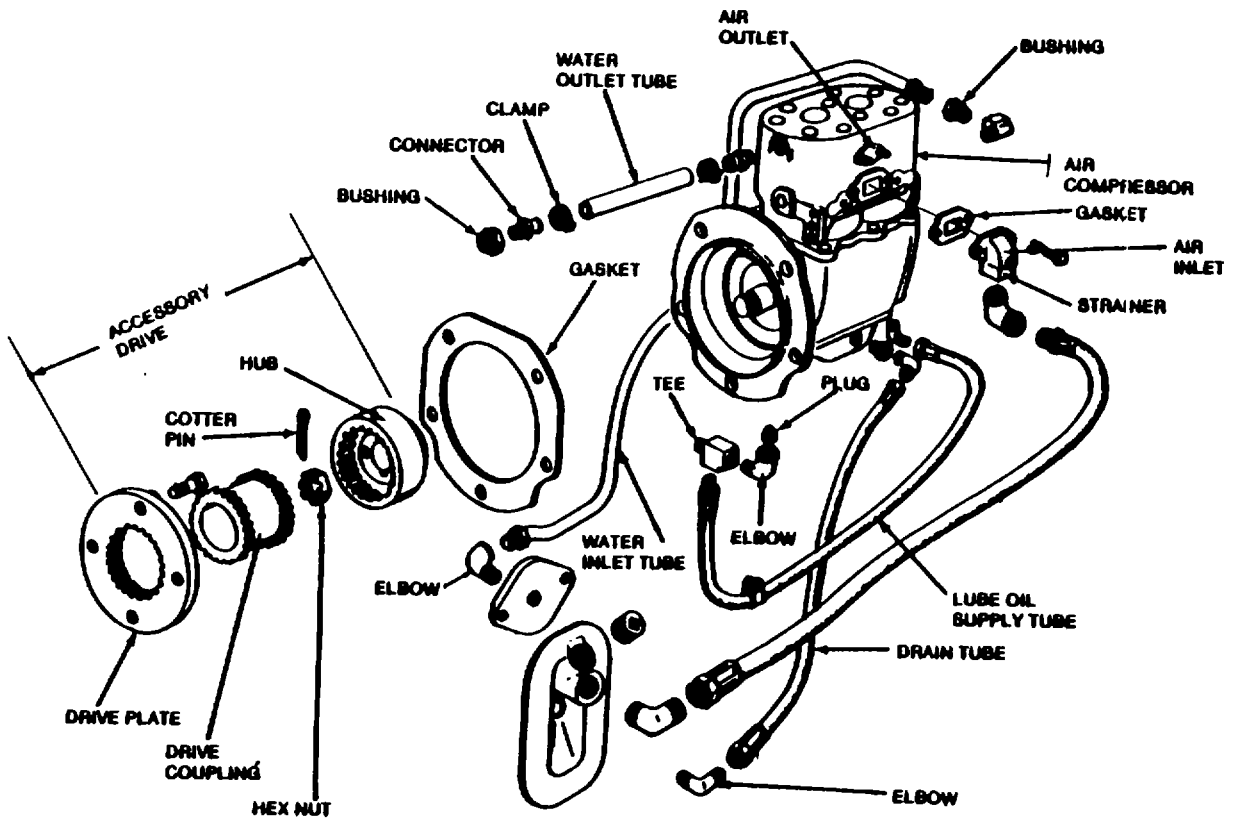

Figure 6-37. Air Compressor Disassembly and Reassembly.
a. Type and Mounting. The air compressor is bolted with five bolts to the engine flywheel cover at the right rear. It is driven at camshaft speed by an accessory drive bolted to the balance shaft gear (Figure 6-37). It receives its lubricating oil and cooling water through hoses from the engine.
(1) The air compressor runs continuously while the engine is running. While the compressor is running, actual compression of air is controlled by the compressor governor which acts in conjunction with the unloading mechanism in the compressor cylinder block. The governor starts and stops the compression of air by loading or unloading the compressor when the air pressure in the system reaches the desired minimum or maximum pressure.
(2) During the downstroke of each piston, a partial vacuum is created above the piston which unseats the inlet valve and then allows air drawn from the air box in the engine cylinder block or through an intake strainer to enter the cylinder above the piston. As the piston starts the upward stroke, the air pressure on top of the inlet valves, plus the inlet valve return spring force, closes the inlet valve. The air above the piston is further compressed until the pressure lifts the discharge valve and the compressed air is discharged through the discharge line into the reservoir.
(3) As each piston starts its downstroke, the discharge valve above it returns to its seat, preventing the compressed air from returning to the cylinder, and the same cycle is repeated.
(4) When the air pressure in the reservoir reaches the maximum setting of the governor, compressed air from the reservoir passes through the governor into the cavity below the unloading pistons in the compressor cylinder block. The air pressure lifts the unloading pistons, which in turn lifts the inlet valves off their seats.
(5) With the inlet valves held off their seats, the air during each upstroke of the piston is merely passed back through the air inlet cavity and to the other cylinder where the piston is on the downstroke. When the air pressure in the reservoir drops to the minimum setting of the governor, the governor releases the air pressure beneath the unloading pistons. The unloading piston return spring then forces the piston down and the inlet valve springs return the inlet valves to their seats and compression is resumed.